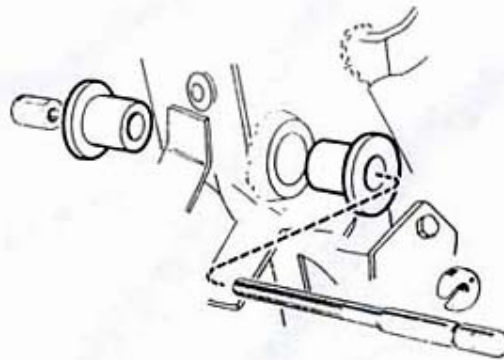

Fig. 4
- Fit new bushings by using Tool No. 100009 (fig. 4).